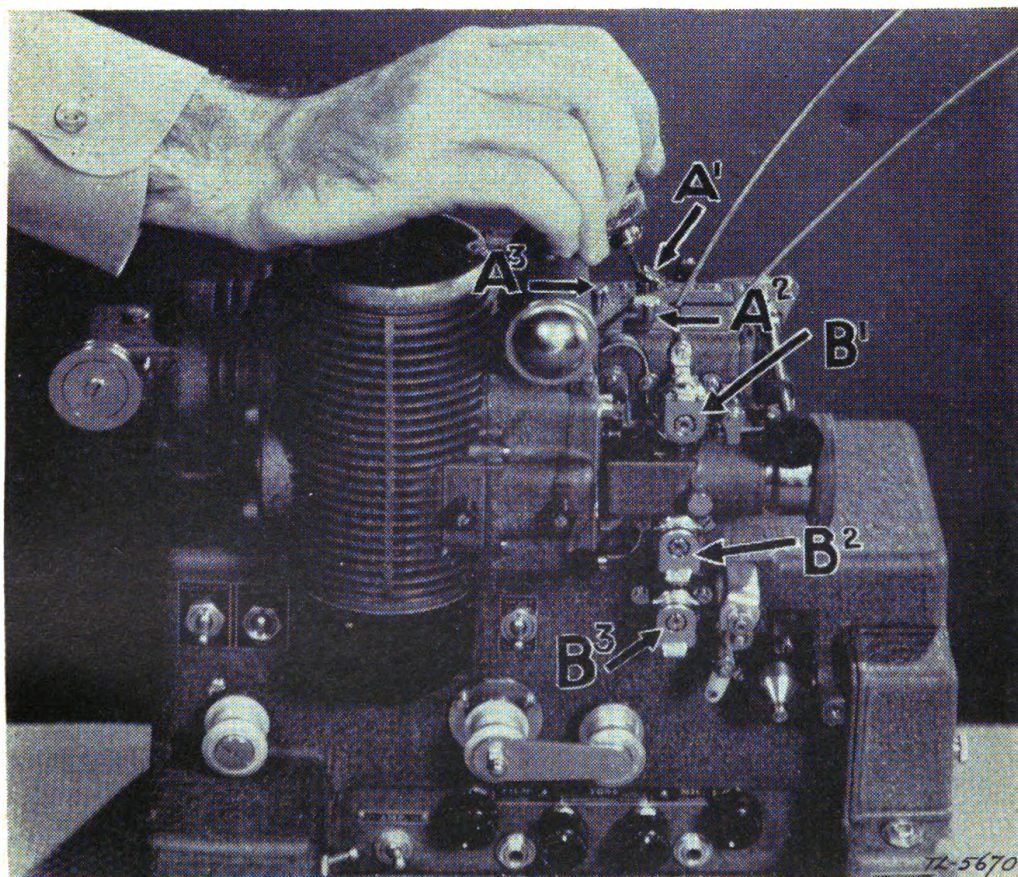

FIGURE 58.—Oiling system of Bell & Howell projector.
c. Bell & Howell.—Place one drop of oil in cups *A*¹ and *A*² (fig. 58) after every 4-hour period of operation. Oil *A*³ with one drop every 16 hours. Saturate sprocket felts *B*¹, *B*², and *B*³ every 3 months.